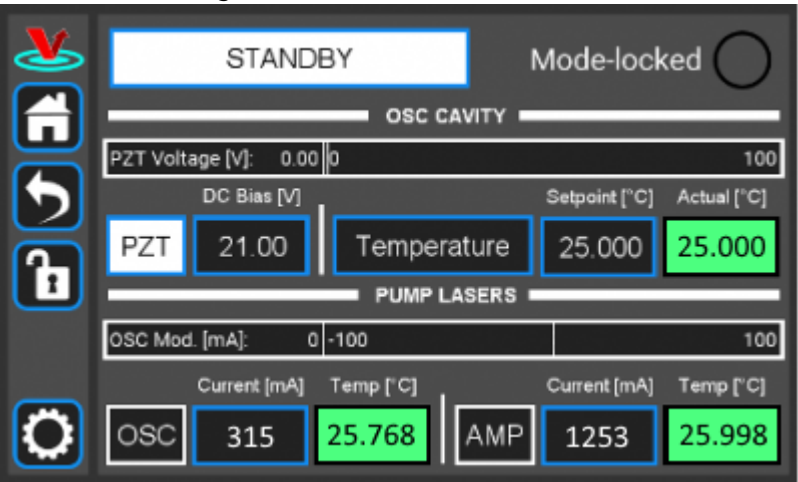
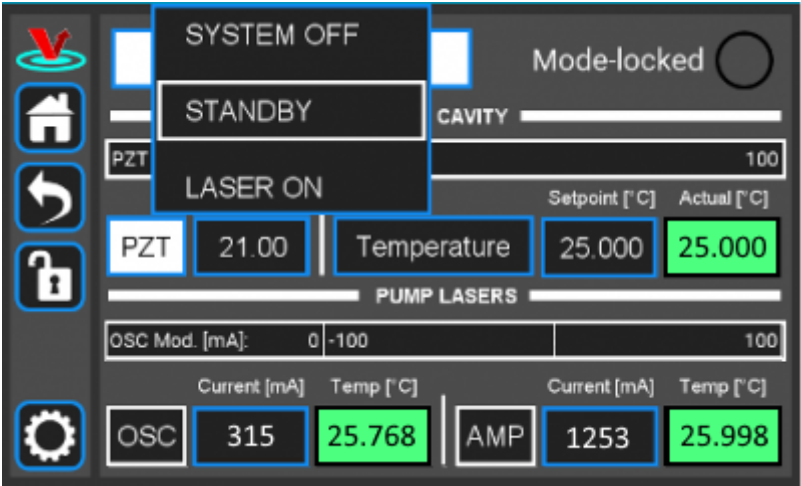
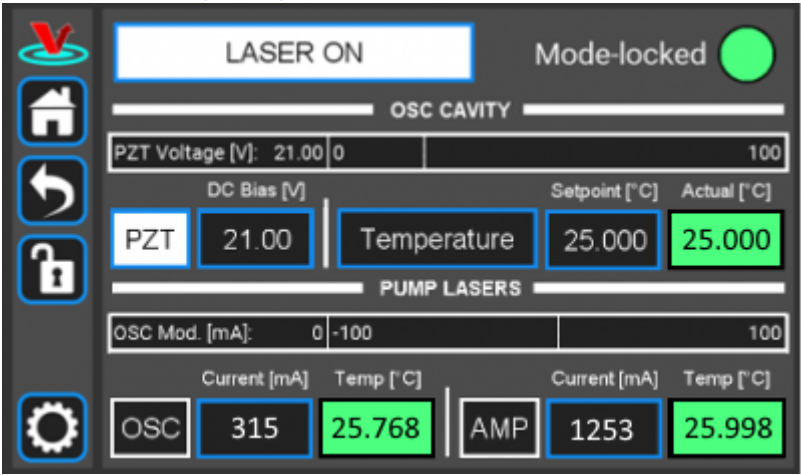

Fig. 16: The FFC-100 GUI: in
Fig. 17: The FFC-100 GUI: Standby to System On
Fig. 18: System On
2. Once the temperature servos have stabilized and “Standby” has stopped blinking, touch the “Standby” drop-down menu (figure 16) and select “Laser On” (figure 17). The FFC should commence lasing and the Mode-locked indicator should turn green (figure 18).